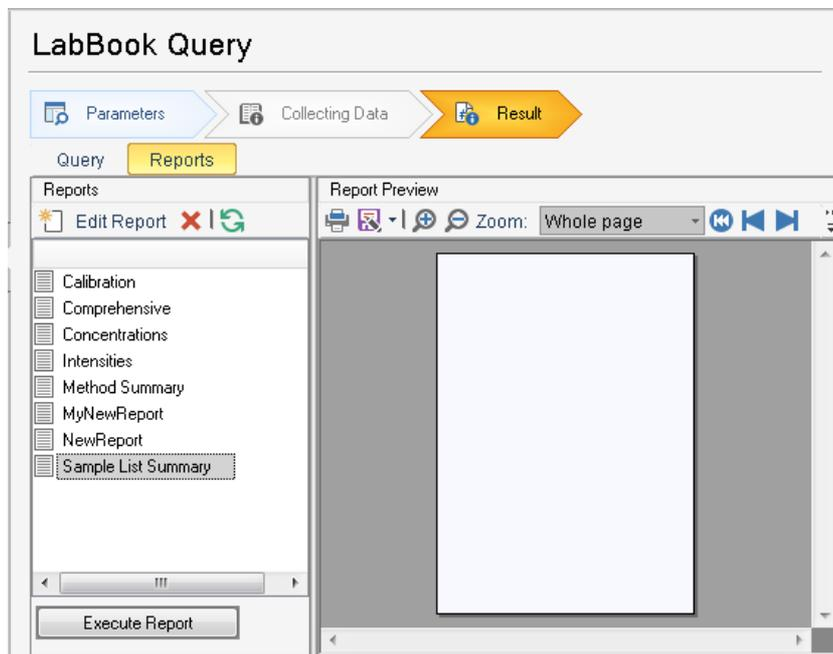

Figure 4-54. LabBook Query Reports page showing defined Reports
- In the LabBook Query Result view, select the **Reports** tab. Previously defined Reports are listed on the left pane, see Figure 4-54.